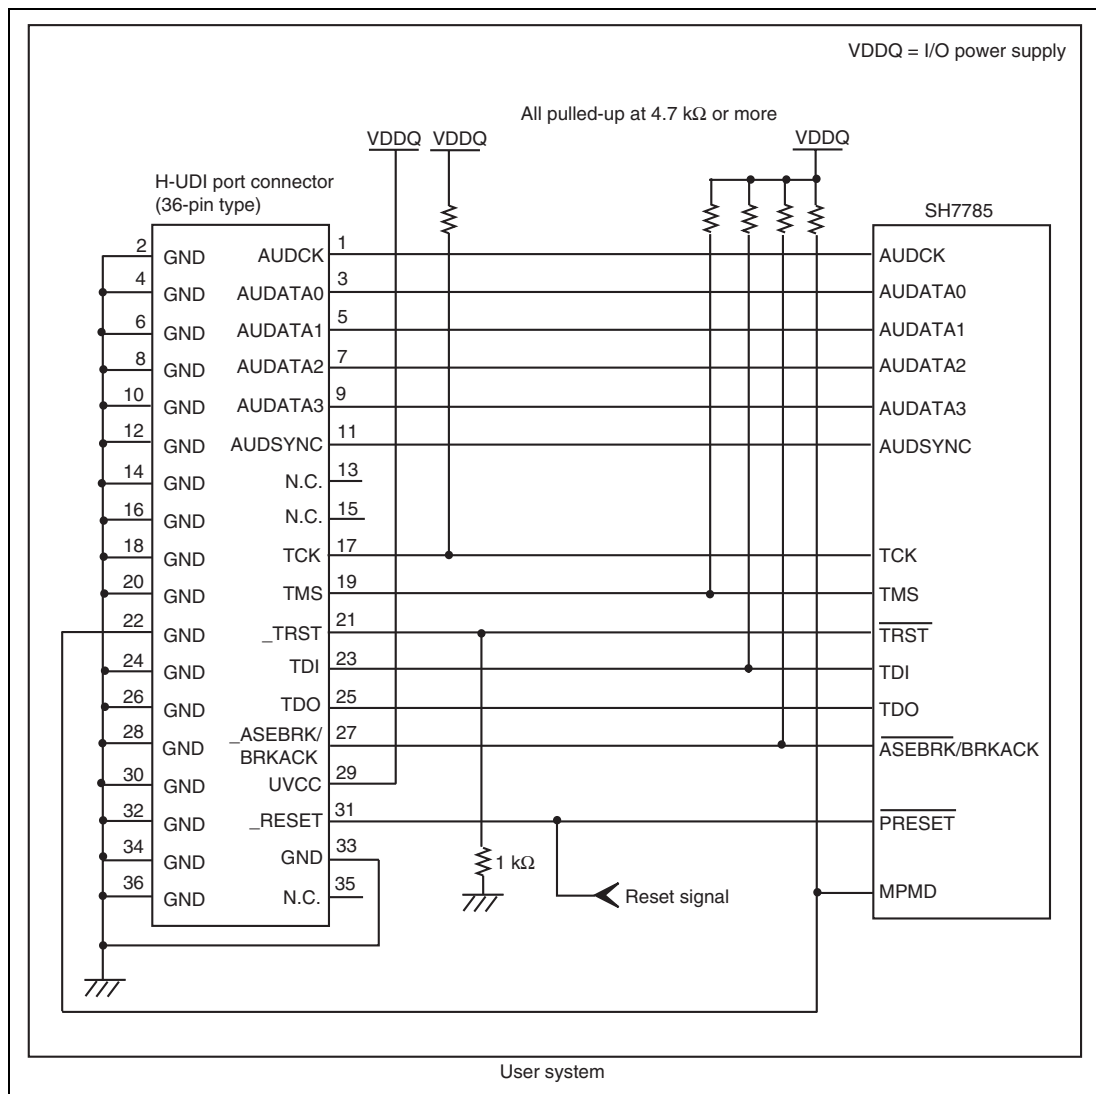

Figure 1.3 Recommended Circuit for Connection between the H-UDI Port Connector and MPU when the Emulator is in Use (36-Pin Type)
Figure 1.3 shows a recommended circuit for connection between the H-UDI and AUD port connectors (36 pins) and the MPU when the emulator is in use.
- (1) When the emulator is used: $MPMD = 0$
- (2) When the emulator is not used: $MPMD = 1$Figure 1.3 shows an example of circuits that allow the MPMD pin to be GND (0) whenever the emulator is connected by using the user system interface cable. When the MPMD pin is changed by switches, etc., ground pin 22. Do not connect this pin to the MPMD pin.
7. The resistance value shown in figure 1.3 is for reference.
When the circuit is connected as shown in figure 1.3, the switches of the emulator are set as SW2 = 1 and SW3 = 1. For details, refer to section 3.8, Setting the DIP Switches, in the SuperH™ Family E10A-USB Emulator User's Manual.